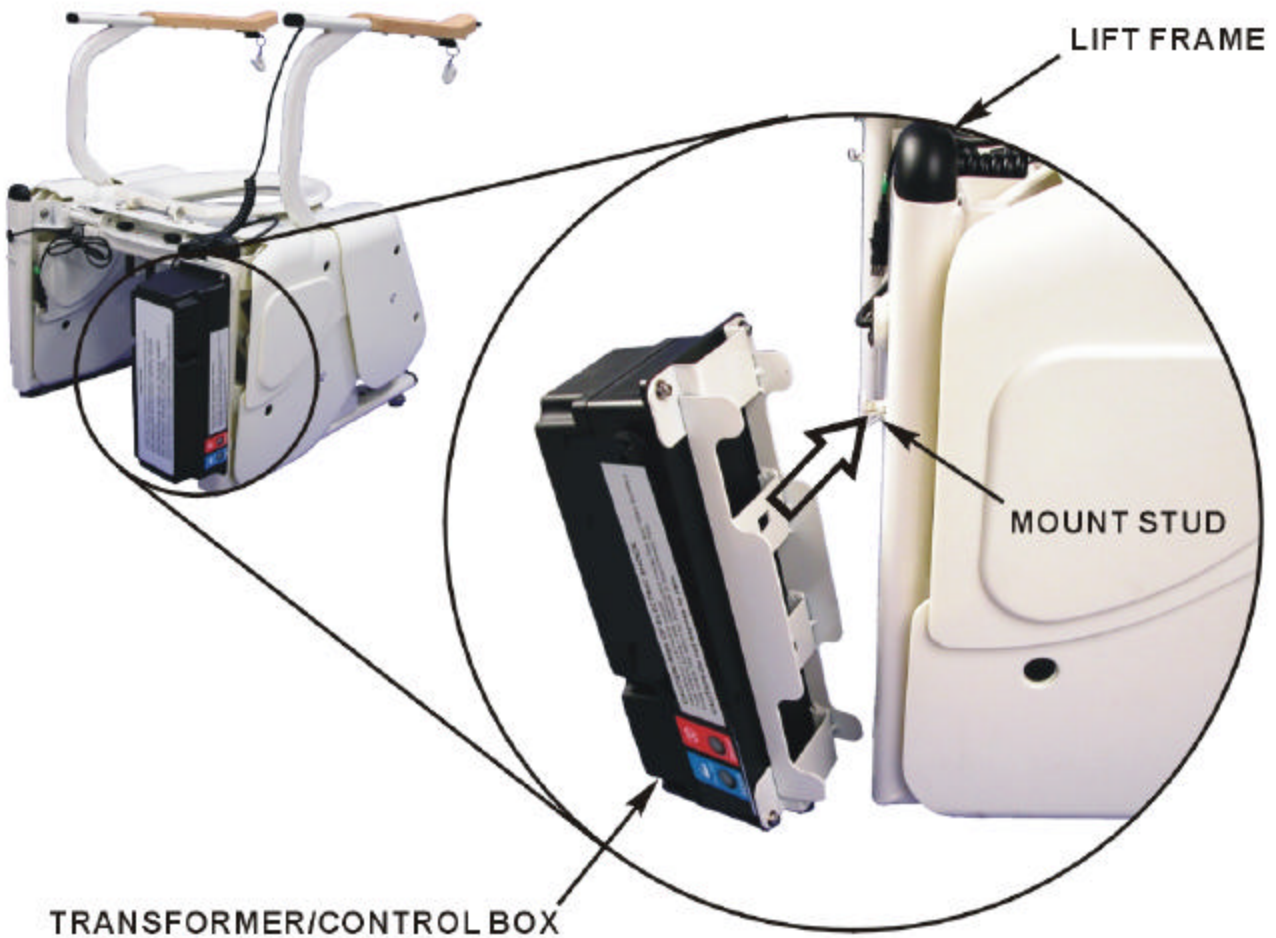

Figure M-2. Transformer/Control Box Mounting
- a. Place the transformer/control box on the mount stud. See Figure M-2.